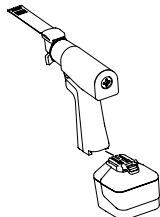

Figure 3 Install Battery Pack
1. Slide a fully charged battery pack firmly into the handpiece until the battery latch snaps, indicating the battery pack is secure (see figure 3).